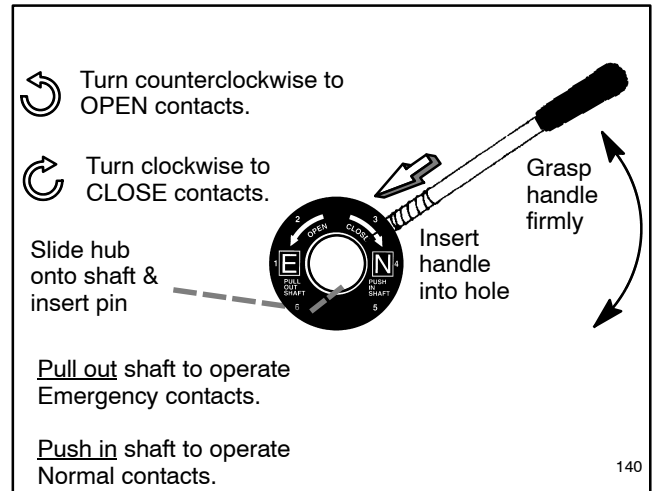

Figure 2-8 Manual Operation, 1000-4000 Amp KBP and KBC
- b. **1600-4000 amp switches:** See Figure 2-8. Slide the hub onto the shaft and insert the pin. Pull out the shaft to operate the Emergency contacts. Push in the shaft to operate the Normal contacts.